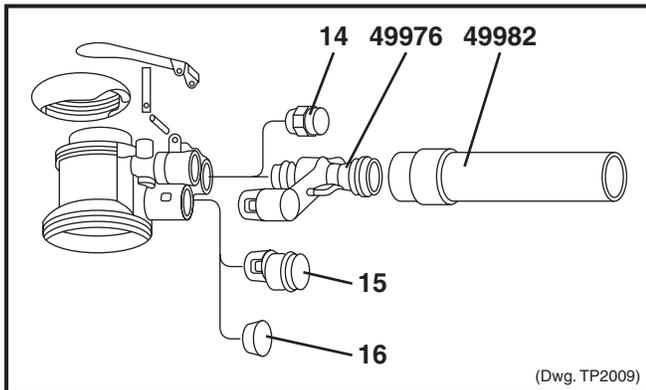

FIGURE 1
If the tool is setup for use with a central vacuum system, disconnect Hose and remove Vacuum Adapter (15) from Housing. If you have a non-vacuum tool, use a Screwdriver or similar tool to remove Plug (16) from the Vacuum Port in back of Housing (See Figure 1).
Connect Vacuum Hose (49982) to Eductor Assembly (49976) (See Figure 1).